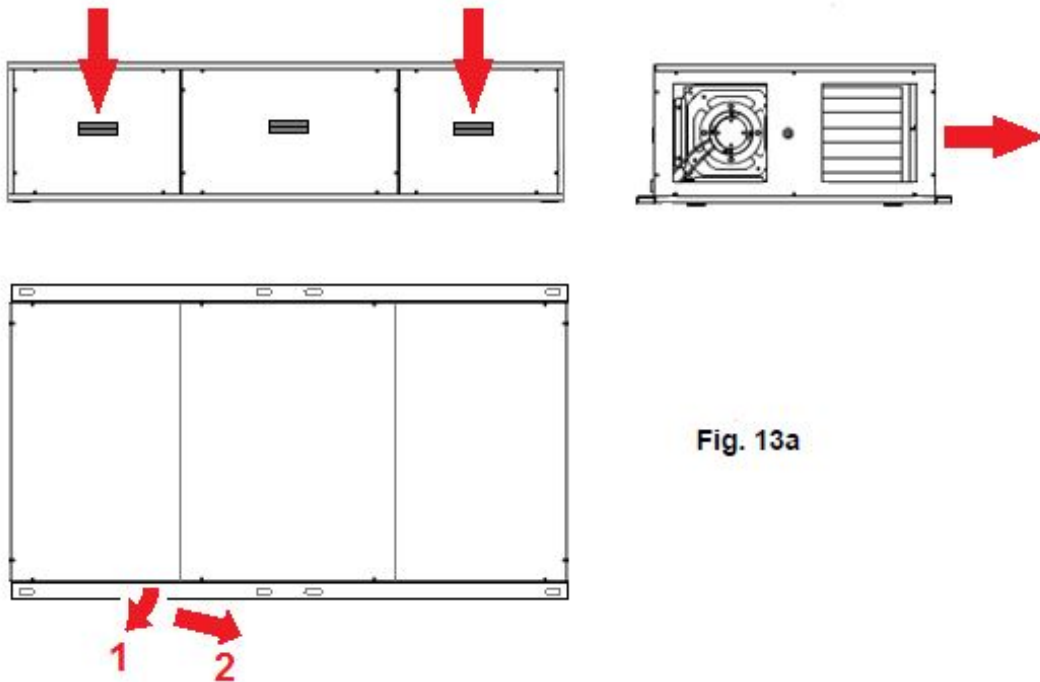

Fig. 13a
1. for the horizontal unit, by removing an end side panel provided with a recessed handle (fig. 13a)
- dismount and remove each of the two end filter panels (fig. 13a e 13b)
- unscrew the internal screws (A) which fix the frame of the by-pass device to the unit internal frame